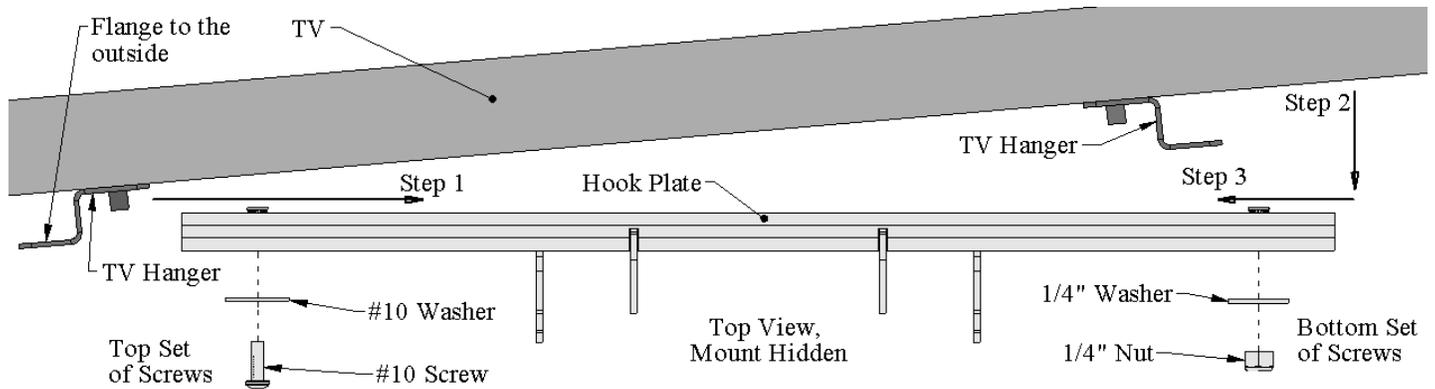

Figure 12, Hanging TV onto Mount (Top View)
2. Figure 12 shows how to slide the TV Hangers and TV onto the Mount.